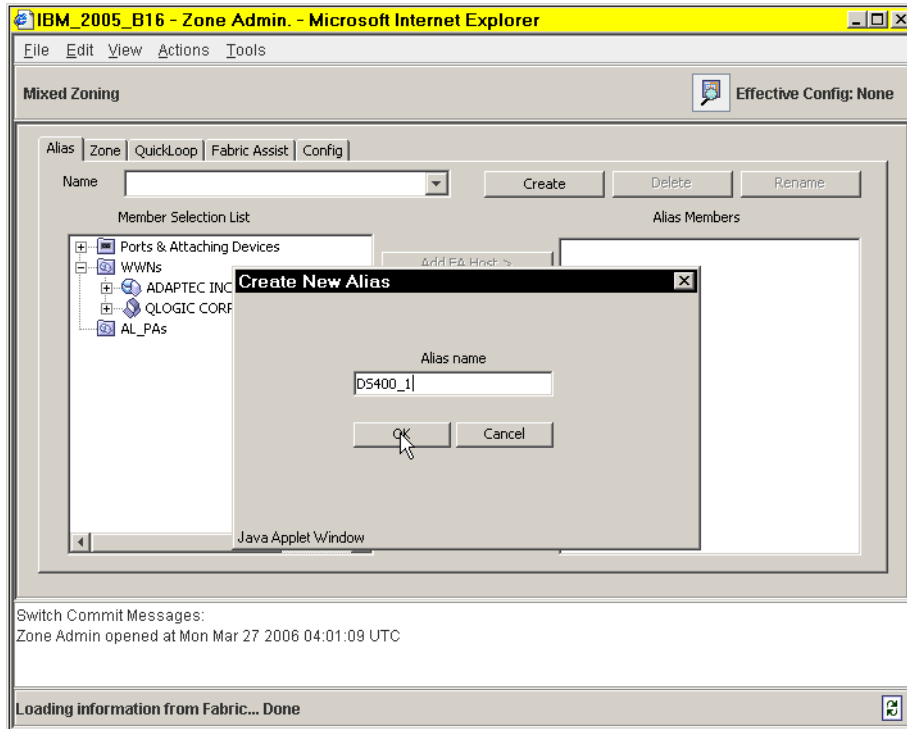

Figure 17 Zoning Alias Naming Dialog
3. The first tab you are presented with is the “Alias” tab. We are going to create one alias for every port in the SAN that is currently connected to “something”. Press the **Create** button and type the name for the alias. We call the first DS400 port DS400_1. See Figure 17 on page 18.